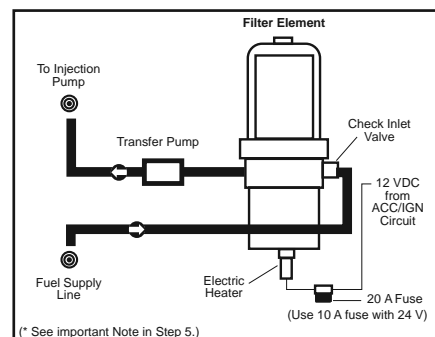

FIGURE 1
Step 5 - Route fuel lines as follows (see Figure 1):
- b. Route the fuel outlet line from the Diesel Pro outlet (labeled "Fuel Out") to the inlet of the fuel pump. See Figure 1.